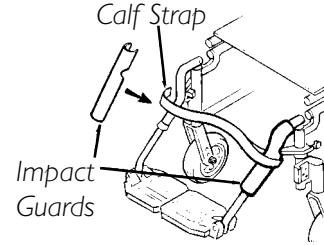

FIGURE 12 - INSTALLING IMPACT GUARDS/CALF STRAP
INSTALLING IMPACT GUARDS/CALF STRAP (FIGURE 12)
2. Secure the impact guards to the footrest frame as shown in FIGURE 12.